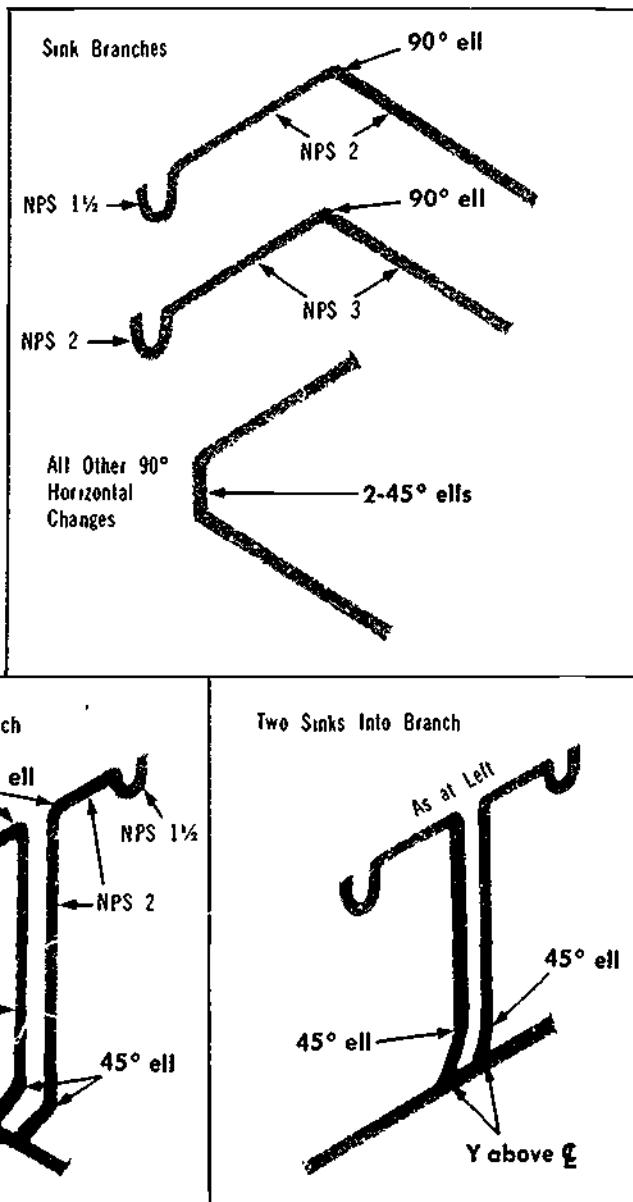

Figure 37-14. Some Typical Sink Branch Configurations
36. Note the details of some typical sink configurations in Figures 37-14 and 37-15.